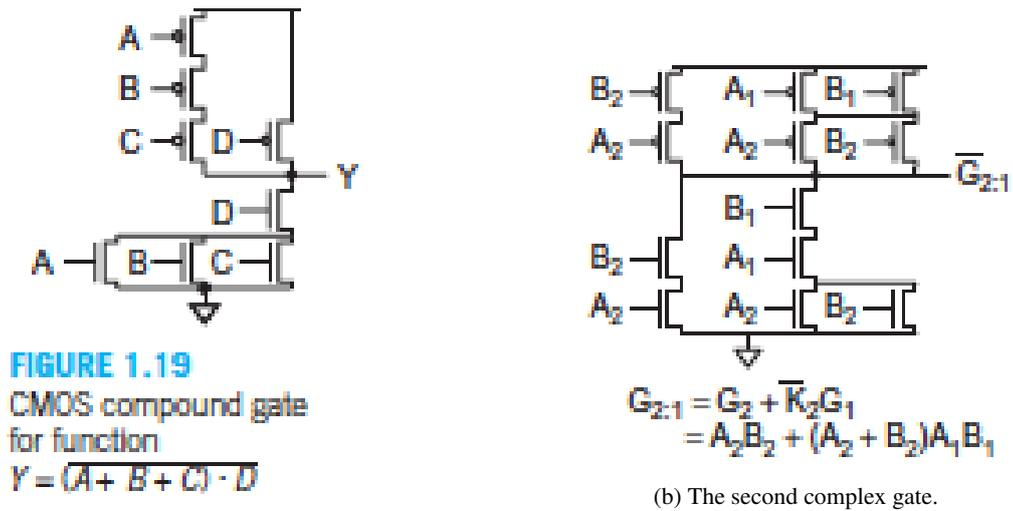

Figure 6.1: Two complex gates for which to calculate logical effort and parasitic delay. Both are taken from the textbook.
In Figure 6.1 you see two complex gates that we have found in the textbook. Again the task is to calculate the parasitic delay, p , and the logical effort, g . Note that in these gates the logical effort will not be the same for all the inputs, so you have to calculate one g value per input. In contrast, the parasitic delay, p , is related to the output, so there cannot be more than one value for p for one specific circuit topology. As usual, assume that the p-transistor current is twice the n-transistor current for the same transistor width.
- Using Euler paths determine if it is possible to lay out the gate shown in Figure 6.1 a) with single-line-of-diffusion approach. If it is possible determine one order of the input signals in the layout that will work.
- Using Euler paths determine if it is possible to lay out the gate shown in Figure 6.1 b) single-line-of-diffusion approach. Assume that the repeated signals, A2 and B2, will also be repeated in the diffusion line. If it is possible, determine one order of the input signals that will work.